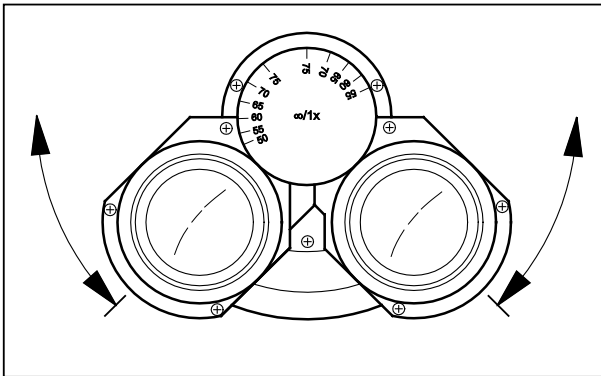

Fig. 14 Adjusting the interpupillary distance
- Rotate the eyepiece tubes symmetrically toward or away from one another to adjust the distance between the tubes to your individual interpupillary distance (Fig. 14).